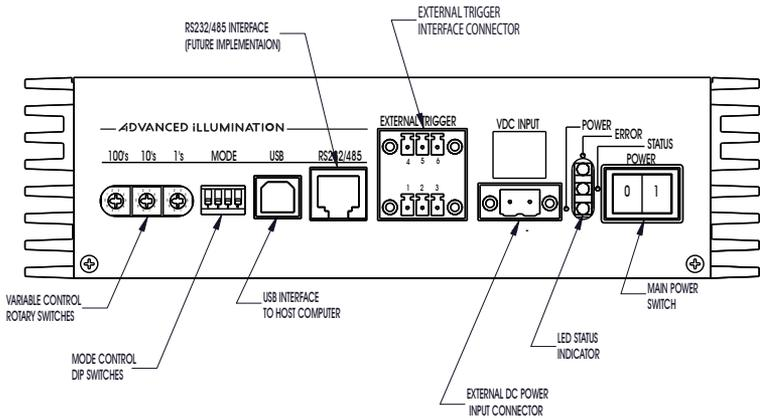

Figure 1: Pulsar 710 front panel
Two physical cable connections will be required to operate the Pulsar 710 and light head in self test mode. Figure 1 shows the front panel of the Pulsar 710.
Using Figure 1, locate the four section dip switch that sets the operating mode of the Pulsar 710. Set the four switches to 1110, from left to right. Logic “1” is set when the switch is up and logic “0” when the switch is down. This is Mode 14 and enables an internal trigger having a repetition rate of 10 Hz. The pulse width is set by the three 10 position rotary switches at the far left of the front panel. The rotary switches set the pulse width in microseconds, up to 999 microseconds. A reasonable starting pulse width for testing is 20 microseconds. Example: Set the “10’s” switch to “2”, leaving the “100’s” and “1’s” switches set to “0”.
Four physical connections will be required to operate the Pulsar 710 and light head. Refer to figure 1 for an illustration of the Pulsar 710's front panel.
4.4.2.1 Configure Pulsar 710: Set the power switch on the Pulsar 710 to the “off” position. Using Figure 1, locate the four section dip switch that sets the operating mode. Set the four switches to 0000 (MODE 0). Logic “1” is set when the switch is up and Logic “0” is set when the switch is down. If you haven’t done so already, connect the host computer to the Pulsar 710, using the supplied USB cable. Set the power switch to “on”. There will be no output from the Pulsar 710 to the light head on startup. All parameters will now be controlled by the host computer.